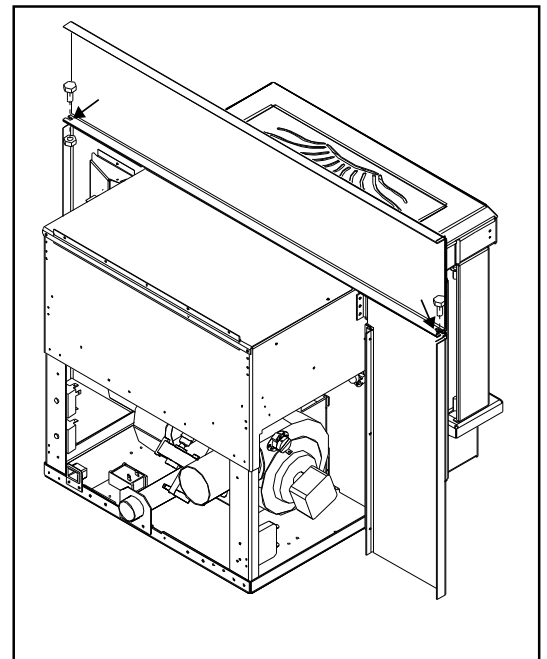

Figure 35: Assembling the Surround Panel, back view.
5. Insert each side panel anchor bolt through the top panel into the corresponding side panel holes and tighten using a  $\frac{7}{16}$ " wrench or socket (refer to Figure 35).